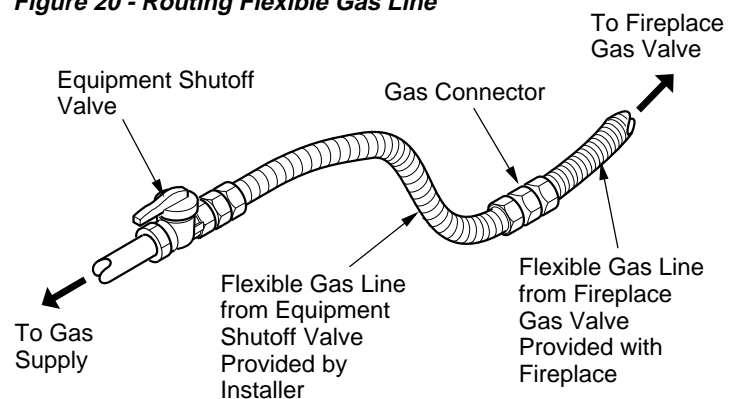

Figure 21 - Attaching Flexible Gas Lines Together
**NOTICE:** Most building codes do not permit concealed gas connections. A flexible gas line is provided to allow accessibility from the fireplace (see Figure 21). The flexible gas supply line connection to the equipment shutoff valve should be accessible.
2. Apply pipe joint sealant lightly to male threads of gas connector attached to flexible gas line (see Figure 21). Connect flexible gas line to flexible gas line attached to gas valve of fireplace (see Figure 21).